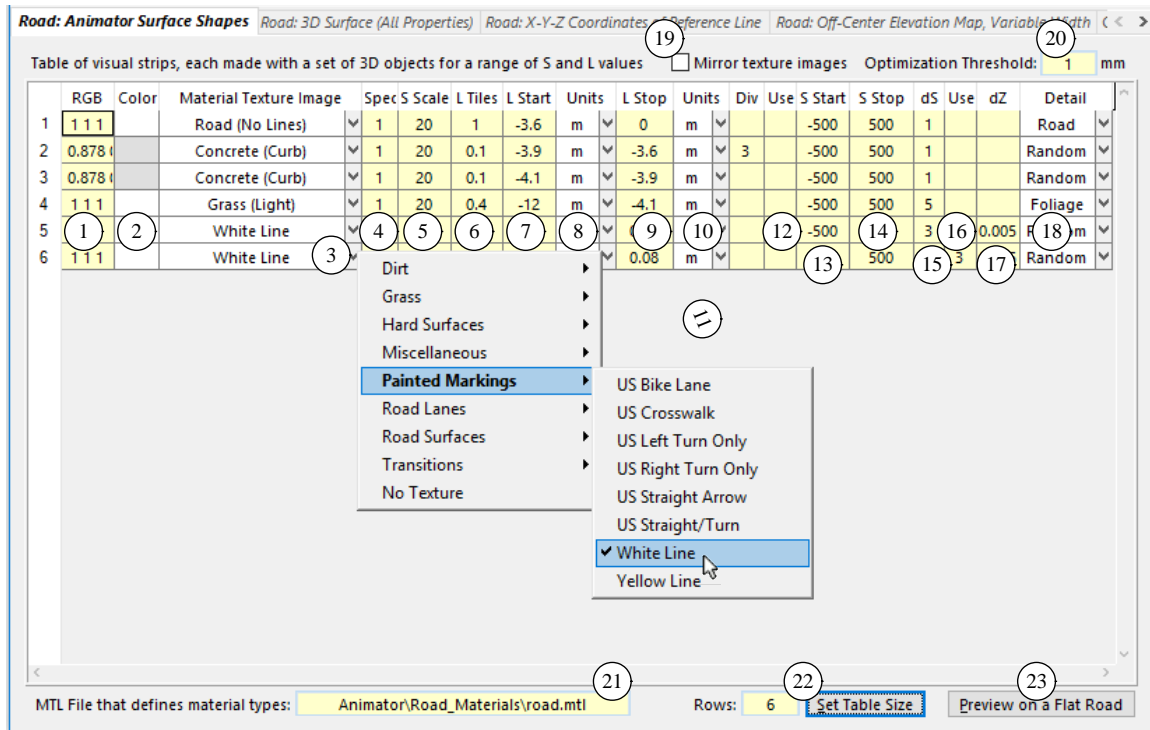

Figure 5. *The Road*: Animator Surface Shapes screen.
You will use the **Road: Animator Surface Shapes** screen (Figure 5) to construct and arrange up to 50 visual strips, which will define a 3D road surface for viewing. The strips can be connected or alternated using this screen to create stripes and grids.
- ③ **Material Texture Image.** Each drop-down control in this column provides a menu to select a texture image (Figure 5). Each selection includes a baseline texture image, plus other files that enhance lighting, reflecting, blending, etc. There is also an option **No Texture** that will simply use a solid color that will be applied directly to the machine-generated objects.
1. L can be specified directly with units of meters. This mode is the simplest choice if your strip has a constant width. To use this mode, set the **Units** (⑧ and ⑩) to **m** as shown for all strips in Figure 5.
sub-divisions mean the shape files will be larger and will take longer to load. If not specified, a single rectangle will be sized to match the strip width. In the first example (Figure 5, page 5), extra divisions are specified in row 2 of the table to show the curb in detail (Figure 3 and Figure 4).